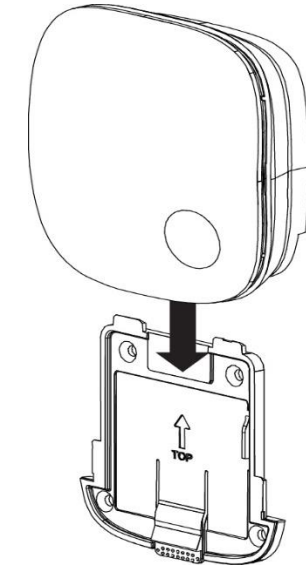

Figure 4
- Slide down the sounder device into the bracket as illustrated in figure 4